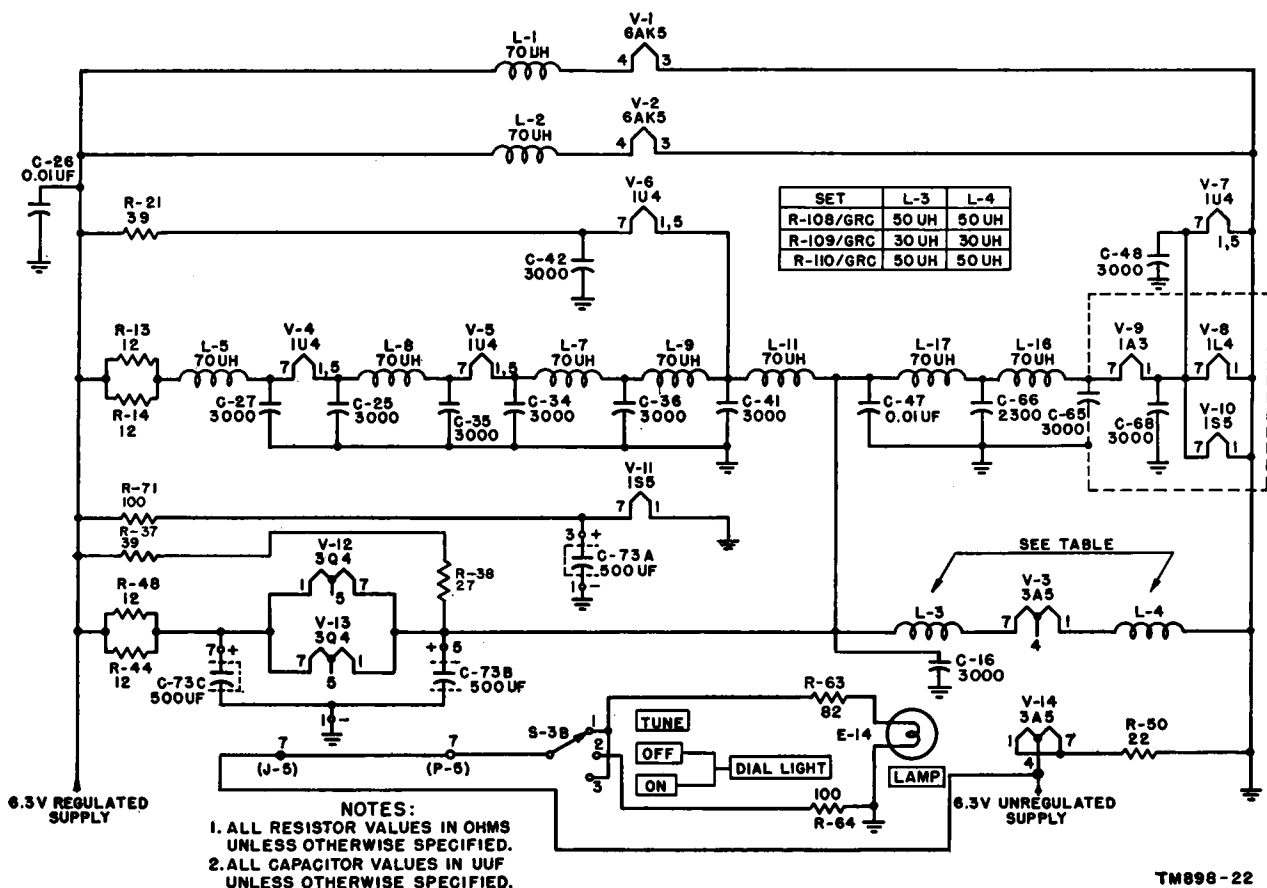

Figure 22. Filament circuits, functional diagram.
(fig. 22)
a. The filaments of the tubes in the receiver are arranged in several 6-volt series parallel strings as shown in figure 22. The 6-volt tubes, V-1 and V-2, each represent one string. Isolating chokes and filter capacitors are used throughout to prevent a-c currents in one stage from entering tubes in the same or associated strings by the filament circuits. This is particularly true of h-f circuits. Voltage-dropping resistor R-21, in series with
V-6, resistors R-13 and R-14 in series with V-4 and V-5 and resistor R-71 in series with V-11 serve to bring the total voltage rating of the associated string to 6.3 volts. Ripple filters are inserted in series with filaments of tubes requiring a high degree of stability in operation. Thus, the filter composed of voltage-dropping resistor R-71 and filter capacitor C-73A is connected in series with the filament of V-11. Similarly, the parallel arrangement of voltage-dropping resistors R-44 and R-48 and capacitor C-73C constitute a ripple filter for the filament supply of V-12 and V-13. Finally, R-38 and C-73B is a ripple filter for the supply to the receiver oscillator tube V-3. The series arrangement of R-37 and R-38 is shunted across the portions of the filament strings as shown in figure 22 to limit the current flow through these filaments to the required values.